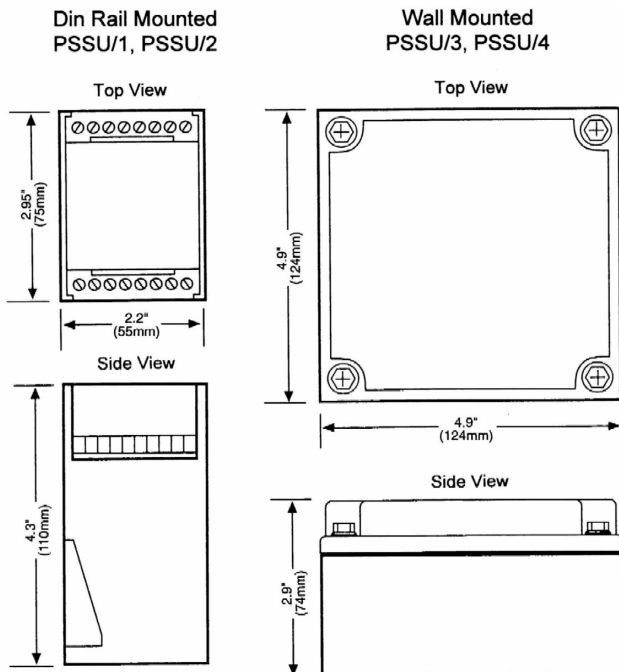

Figure 3
**PSSU/3 and PSSU/4 Control Units** - should be mounted on a permanent part of the machine in a position which keeps cabling to a minimum and provides sufficient protection from damage by passing traffic but allows adequate access for servicing. The dimensions of these units and the position of mounting holes are shown in Figure 3.